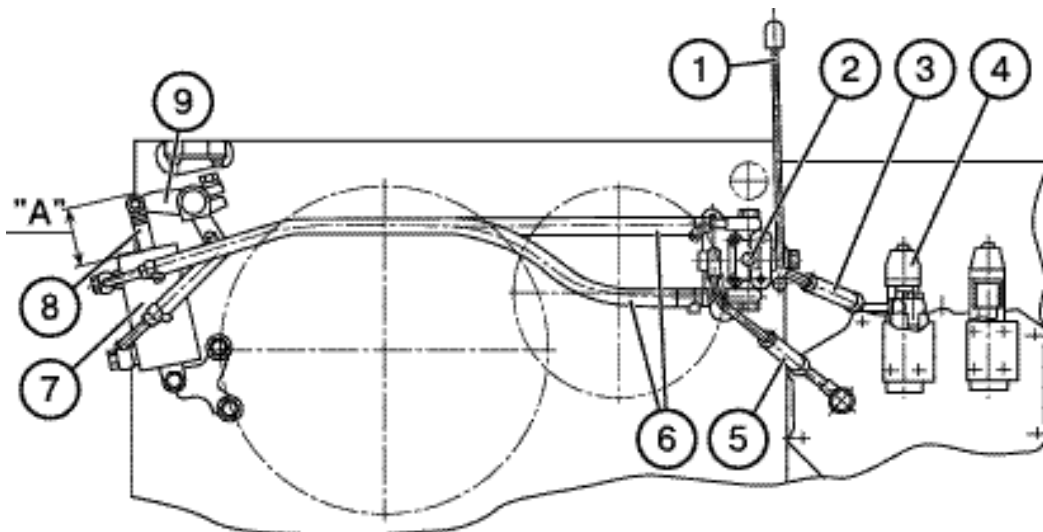

Fig. K-5.
1. Set PTO rod (1) to position «Off» (an extreme lower position) as described in the figure K-5.
2. Remove a bolt (13) and a plate (12) as described in the picture K-6.
3. Using a wrench ($S=14$ mm) turn an eccentric control roller (3) clockwise by an angle of about 30° .
4. Reinstall the plate and the bolt (13) back.